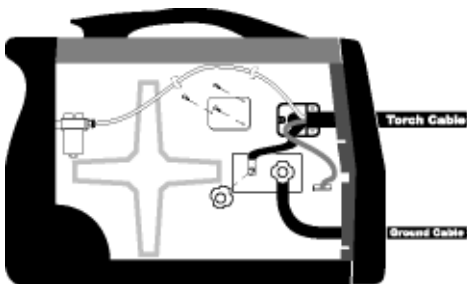

Figure 7. Torch Connections
9. Feed the Gas Hose through the eyelets, which are stamped into the welder's Dividing Panel, and back towards the Fast Coupler Fitting at the rear of the welder. (See Figure 7)